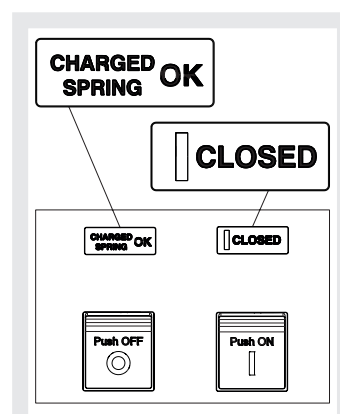

Figure 28
4. Circuit-breaker closed with springs charged (see Figure 28). This state occurs when after closing (see step 4 - Manual operations for opening and closing the circuit-breaker) the springs are recharged manually or automatically by the gearmotor (if provided).